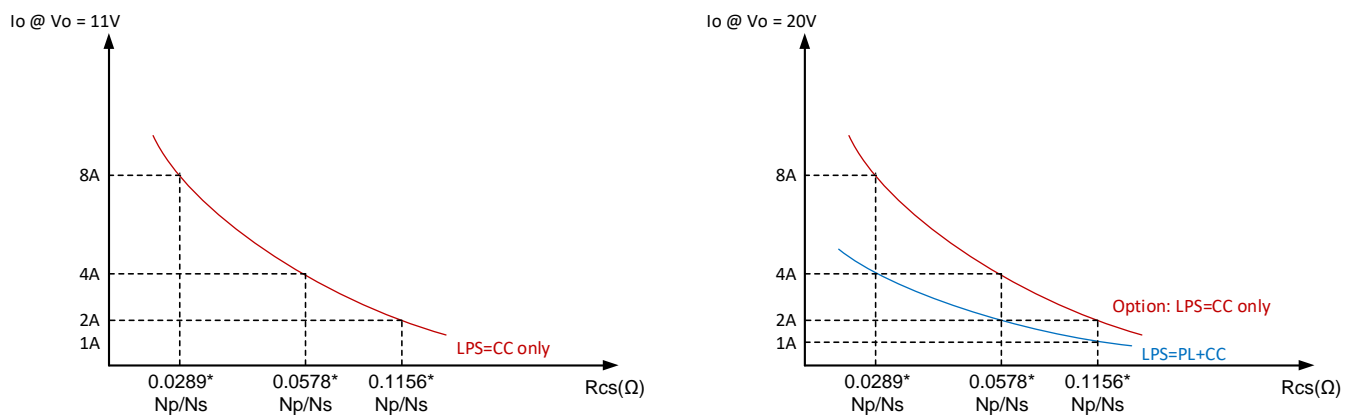

Figure 23 LPS vs. Rcs
The NV9510 family products incorporates built-in power limit (PL) and current limit (CC) circuits to limit output power in the event of the protocol IC becoming malfunction. As Figure 23 shows, when output voltage is equal and lower than 11V, the LPS is controlled by CC; when higher than 11V, the LPS is controlled by PL and CC or CC only. The LPS can be adjusted by current sense resistance, it is recommended to have 10~15% margin.